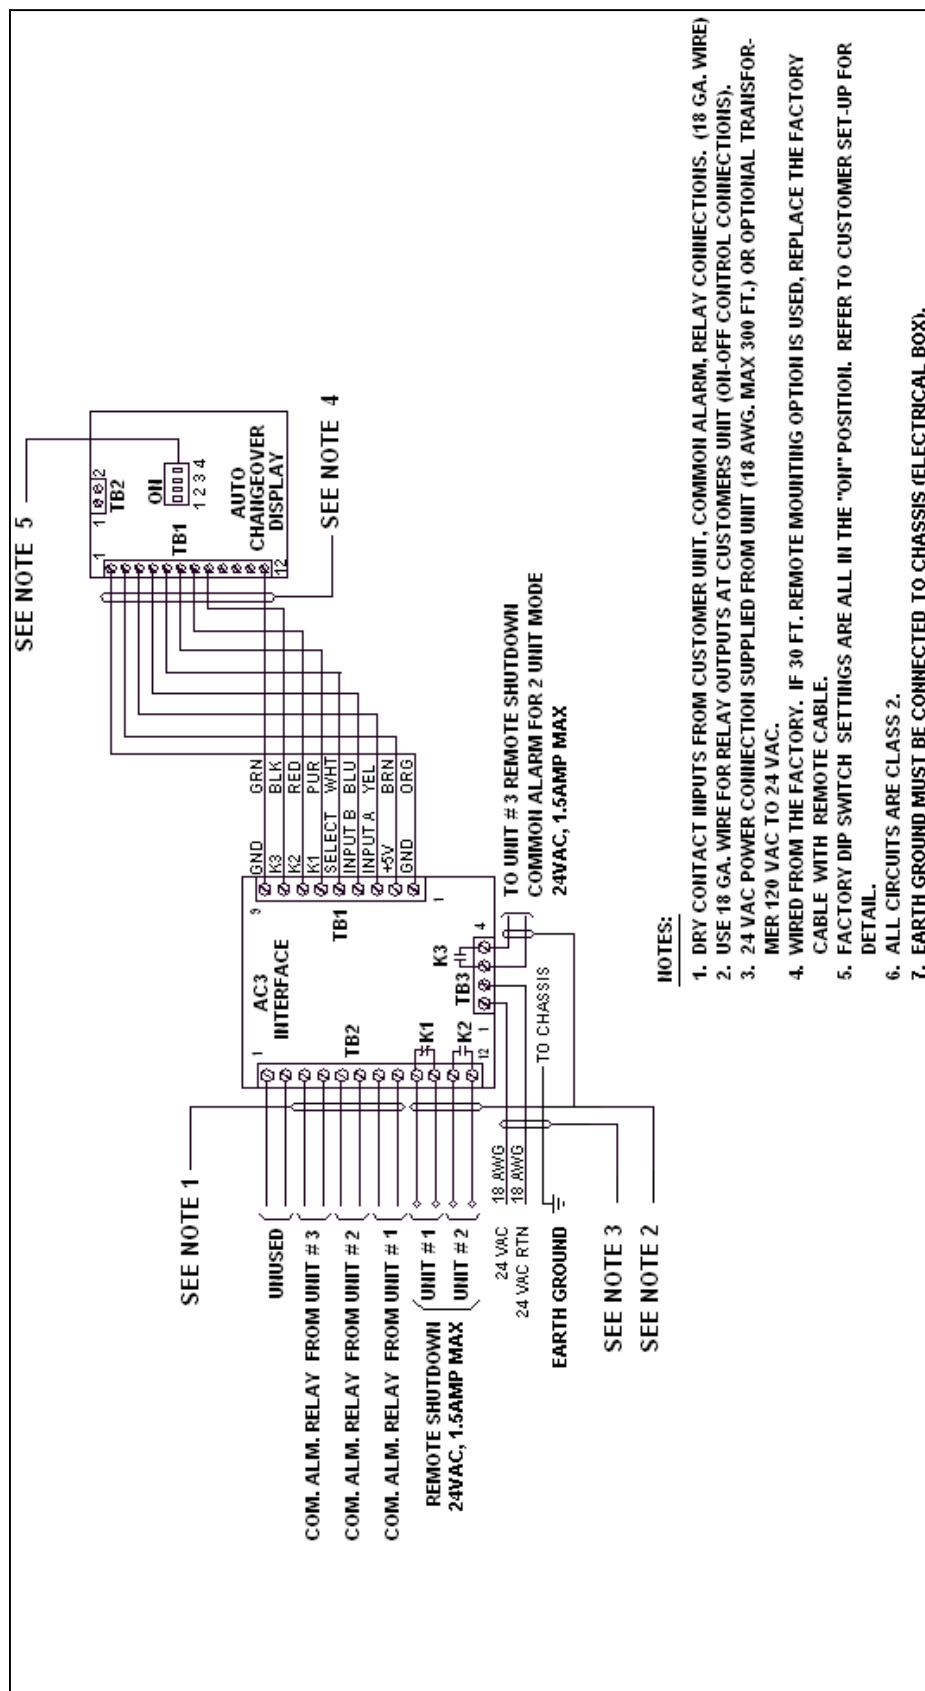

Figure 3. Electrical Connections, Electric Box and Display
2. Make each power and unit connection (to Item 4) by inserting bare wire end into compression terminal and tightening screw. Refer to **Electrical Connections** section. If 30-foot cable is used, disconnect factory wire harness and attach cable to screw terminals per Figure 3.
4. Attach electric box cover (Item 3) with two (2) screws.
5. Remove the front cover from the AC3 display panel (Item 1) by gently prying open at the slots on the top and bottom of the display. Do not remove factory wiring from the control assembly. Attach the control panel rear plastic and the wall plate (Item 2) to the electric box with two (2) screws.
Refer to Table 1 and Figure 3 for the remote shutdown and common alarm connections between the AC3 and Liebert Environmental units.